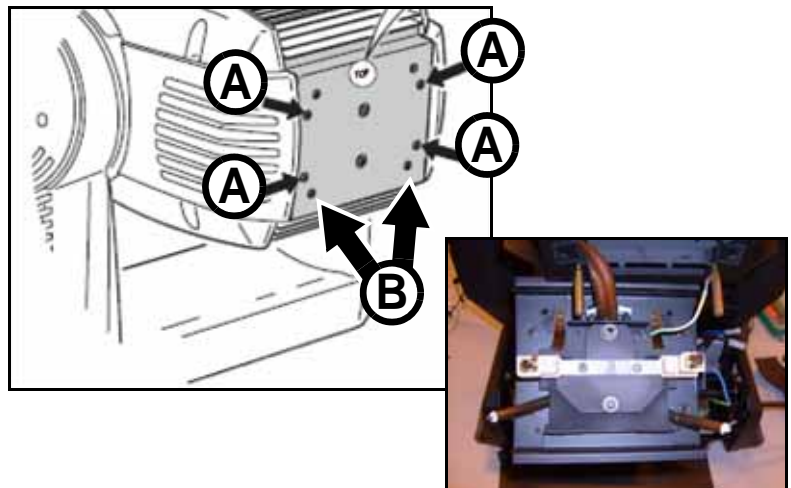

Figure 50
55. See Figure 50. Release the 4 quarter-turn screws (A) in the rear lamp housing cover. Open the cover and remove the lamp. Remove the two Torx 20 cover retaining screws (B) to release the lampholder/rear cover assembly and let it hang from the lamp leads and ground lead (*the photo shows the lamp leads already released from their terminals, but you will release them in the next step*). Keep the rear cover retaining screws for re-use.